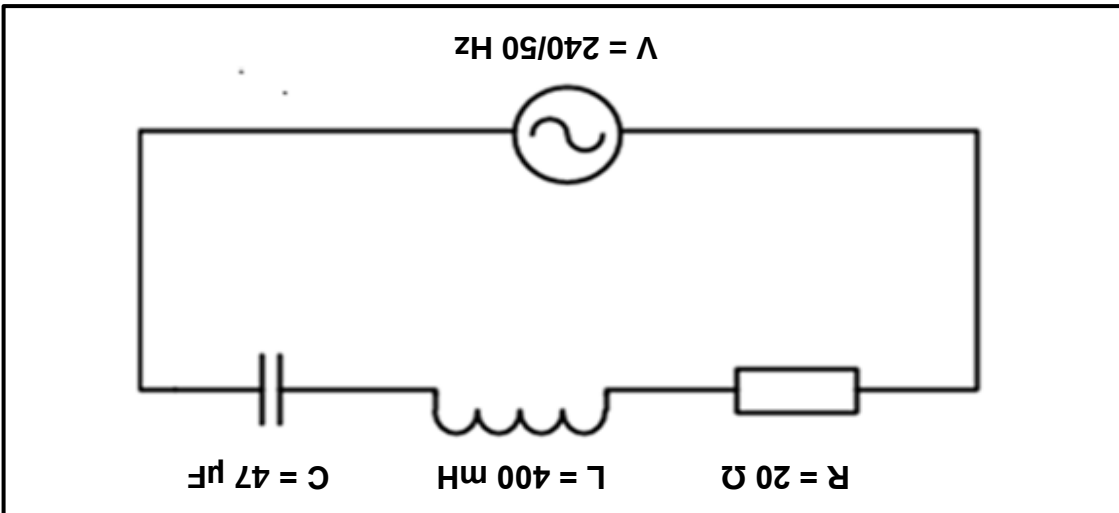

FIGURE 5.1: RLC SERIES CIRCUIT
5.4 Refer to the diagram in FIGURE 5.1 below. (3)
5.5 State, with a reason, whether the circuit in FIGURE 5.1 is more inductive or more capacitive. (2)